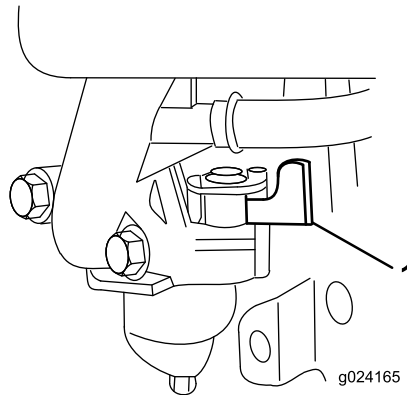

Figure 14
2. Open the fuel valve by moving the fuel-valve lever to the **right** (Figure 14).
**Note:** Close the fuel valve by moving the fuel-valve lever (Figure 14) to the **left** if you will not be starting the engine soon afterward.